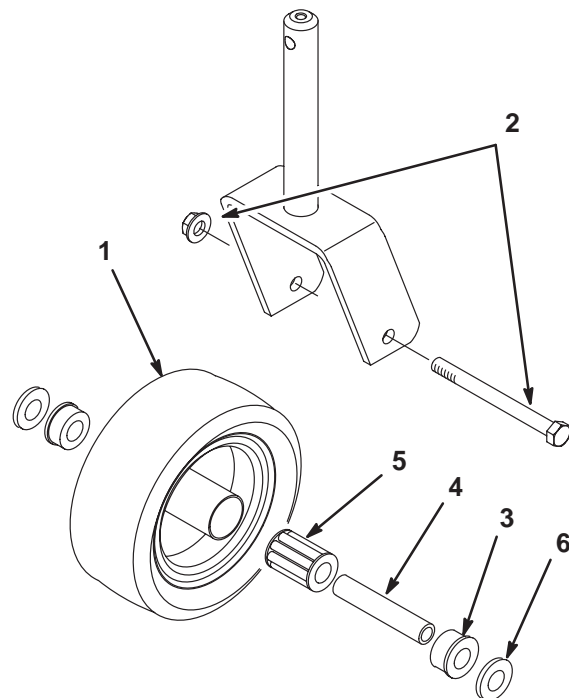

Figure 28
1. Remove the locknut from the capscrew holding the castor wheel assembly between the castor fork (Fig. 28). Grasp the castor wheel and slide the capscrew out of the fork.
2. Pull the spanner bushing out of the wheel hub (Fig. 28).
5. To assemble the castor wheel, push the bushing into the wheel hub. Slide the bearing into the wheel hub. Push the other bushing into the open end of the wheel hub to captivate the bearing inside the wheel hub (Fig. 28).